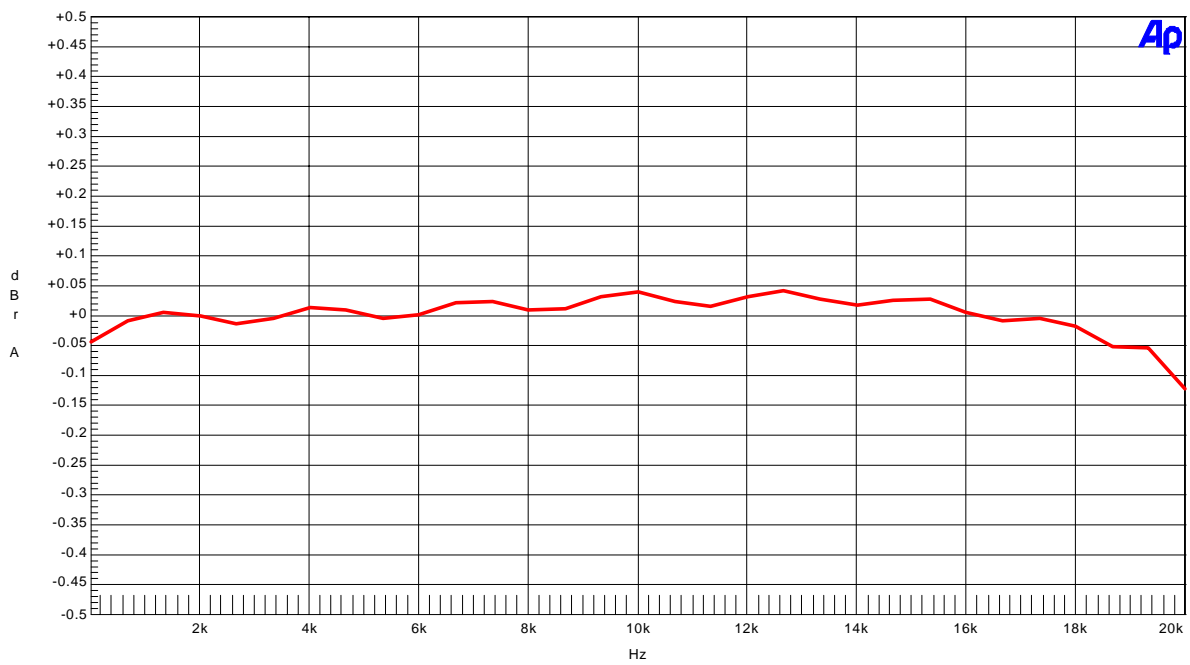

Figure 13. Frequency Response (Input level=0dBFS)
- Figure 13. Frequency Response (Input level=0dBFS)